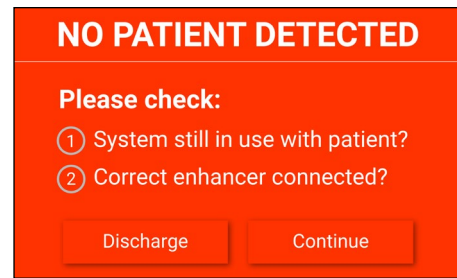

Figure 33. Patient not detected instruction
- The Guardian System 2.5 will alert the user if after a period of time a patient is not detected on the enhancer when being used on the bed or seat only. An auditory alert will occur for three (3) minutes.
- Follow the instructions on the screen to address the alert. (Fig. 33)